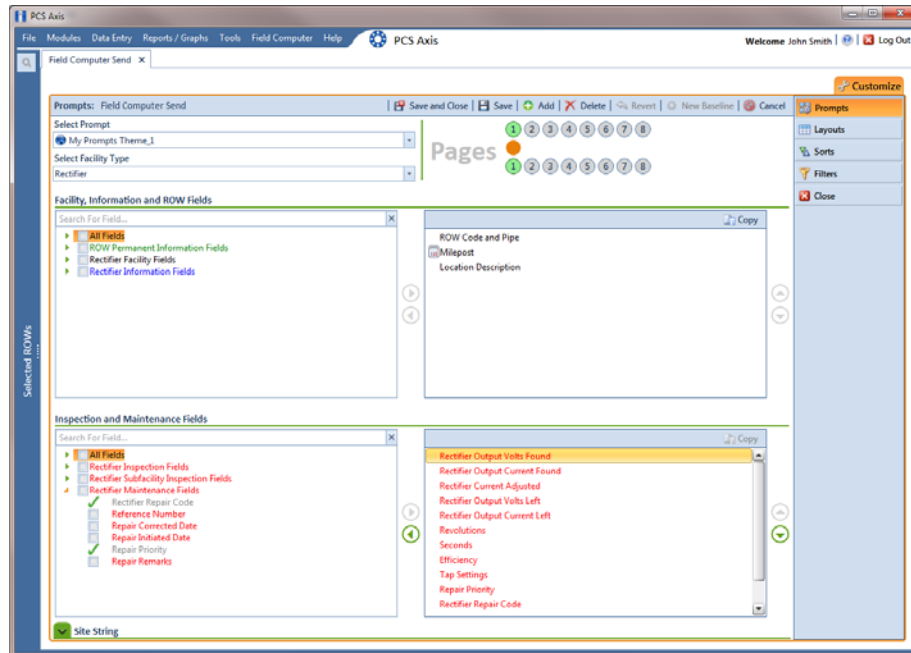

Figure 13-30. Prompts
- 8 Verify the name of the new theme displays in the **Select Prompt** field. If not, click the down arrow and select the theme in the selection list (Figure 13-30, page 583).